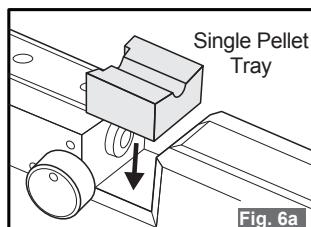

Fig. 6a
- Insert the single pellet tray into the receiver. (Fig. 6a)